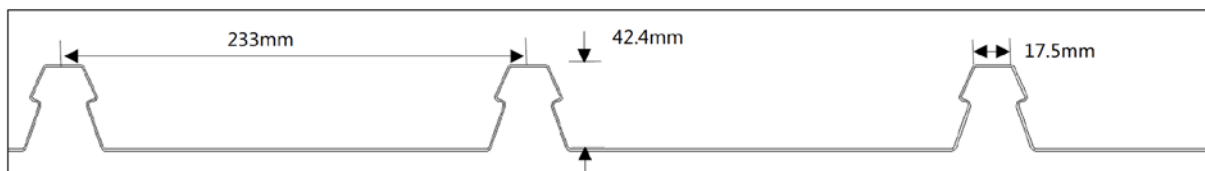

Figure 1
- Selection of color steel tile: it is recommended to choose the color steel tile with a rib spacing of less than 233 mm, a height difference between the rib and valley of more than 42.4mm, and a rib width of more than 23mm. (Figure 1)